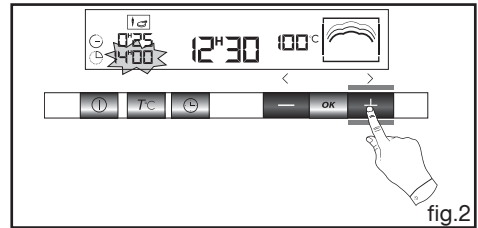

fig.2
- Example: End of cooking 14:00 (fig.2).